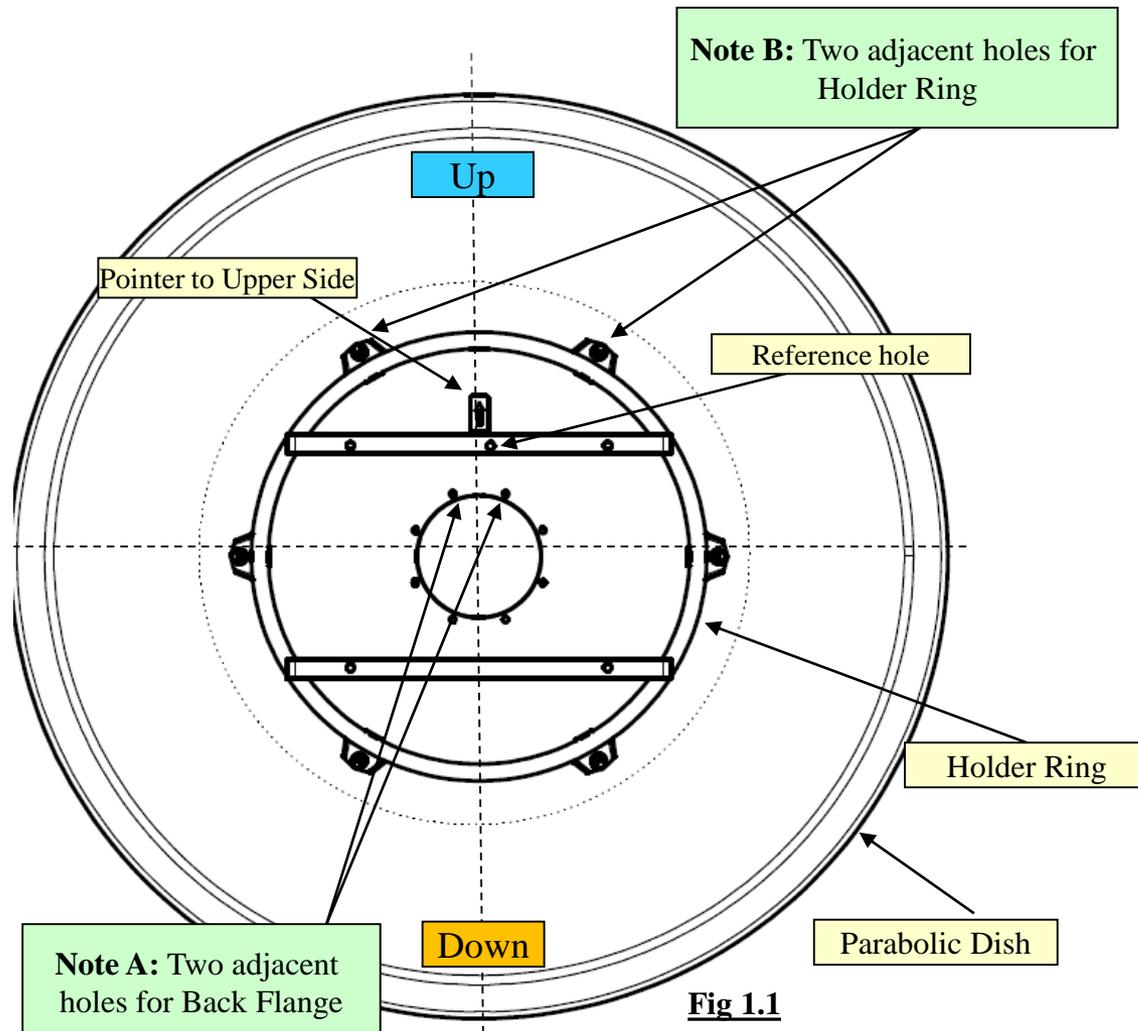

Fig 1.1
- The point “Up” in Fig. 1.1 indicates the upper side of the Holder Ring and Dish (antenna) .
- The Reference Hole in the bar placed in upper side of Holder Ring of antenna (Fig 1.1.).
- The line Up – Down of the Holder should be between two adjacent holes for Back Flange (Fig 1.1 Note A).
- The line Up – Down of the Holder should be between two adjacent holes for Holder Ring (Fig 1.1. Note B).
4.1 Connect Holder Ring to Mount with screws, washers and nuts from Kit #1 (Items 1, 2, 3, 4). Fig 1.1; Fig 4.1 and 4.2 show correct and wrong Holder Ring adjustment.